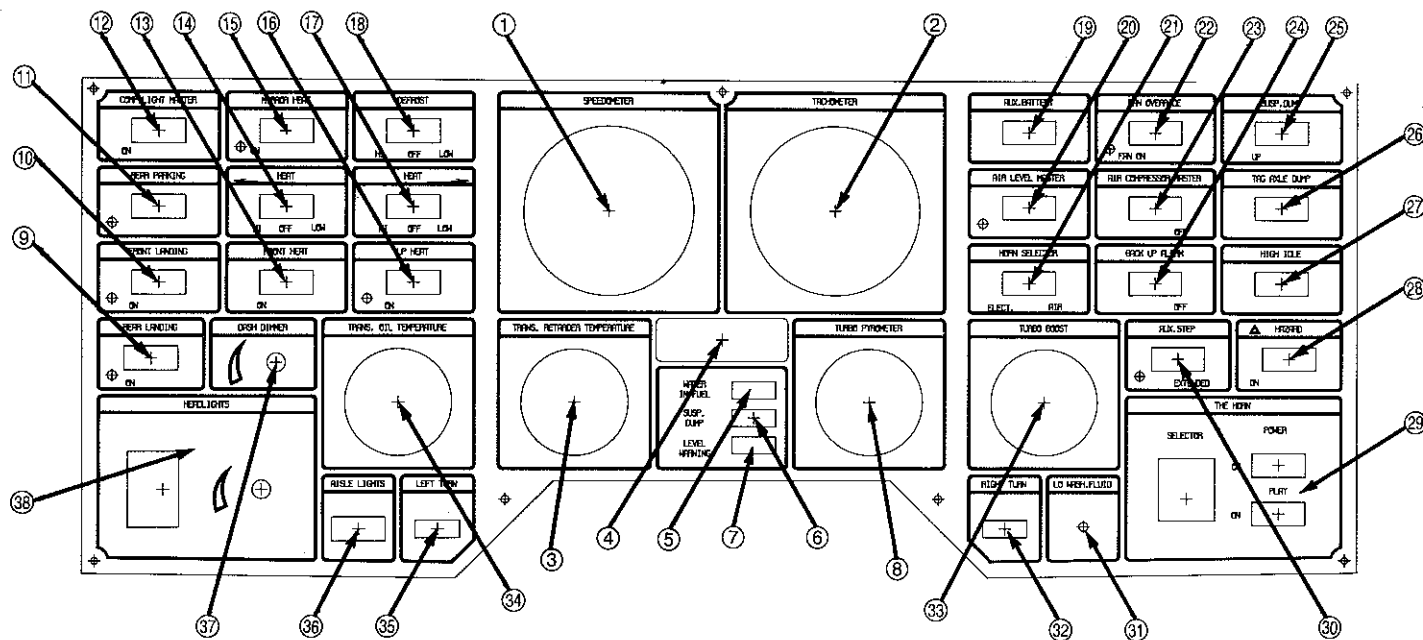

Figure 2-4. Lower Dash Panel
Lower Dash Panel (See Fig. 2-4)
②⑤ **SUSP. DUMP** Switch — This switch controls the inflation of the air suspension systems for the front and rear axles. Move switch to the right to dump the bags. Note that **SUSP. DUMP ACCESSORY WARNING** light is lit: set switch to **UP** position to re-inflate the air bags before driving away. (System air pressure must be at least 65 psi.)
②⑥ **TAG DUMP** Switch — In **UP** position tag axle air suspension is pressurized as indicated on dash gauge **TAG AXLE PRESSURE**. When switch is moved right pressure in tag axle is dumped.
②⑦ **HIGH IDLE** Switch — This switch when turned to **ON**, increases the engine idle speed to approximately 1100 RPM. This will provide a faster engine warm-up and also provide better cooling when stopped in traffic with chassis A/C on.
②⑧ **HAZARD** Switch — This switch turns on the emergency flashers. When switch is used both turn signals will flash in unison.
②⑨ **THE HORN**, Figure 2-4 — This corner of the dash has 3 different switches for use with the musical horn.